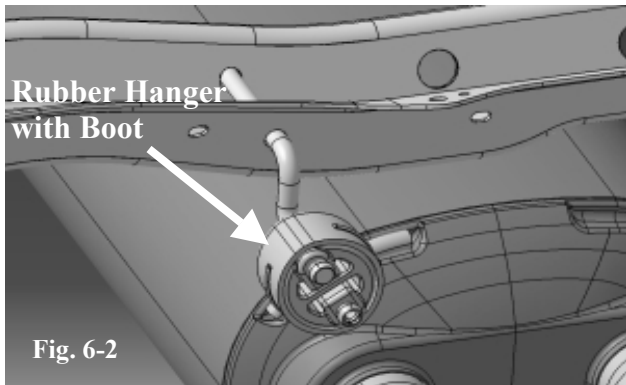

Fig. 6-2
- (b) Attach the rubber hanger with boot previously installed in the rear of the TRD center muffler assembly to the vehicle side hanger on the vehicle frame. (Fig. 6-2)